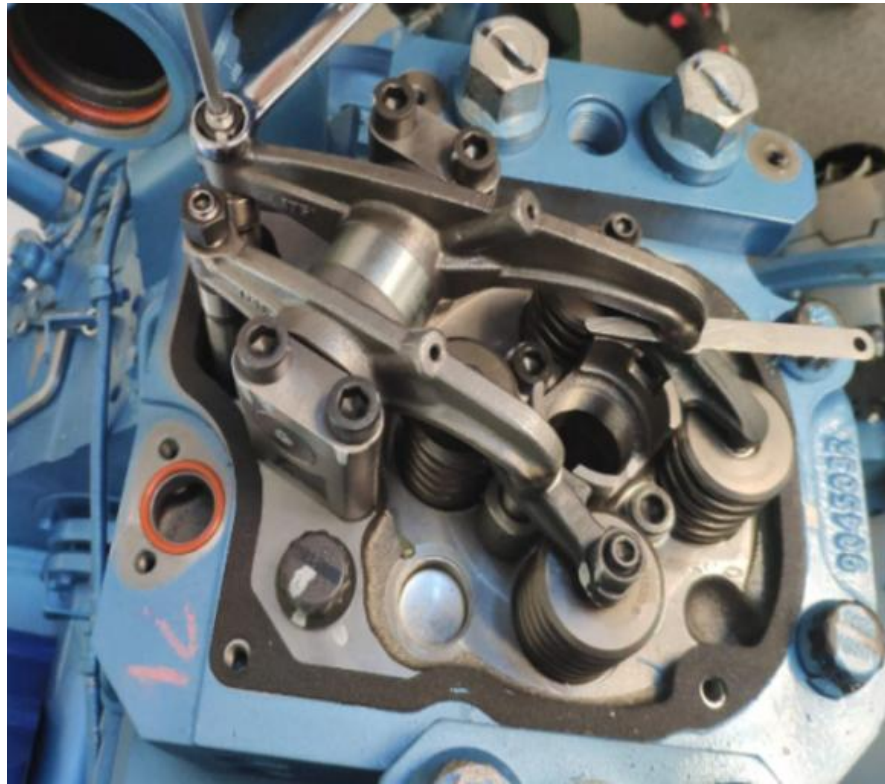

Figure 79.
7. Use a feeler gauge to check the clearance between the rocker arm and the valve bridge (Figure 79). Lash should be set to 0.021" (0.533 mm) for the intake and 0.039" (0.990 mm) for the exhaust.